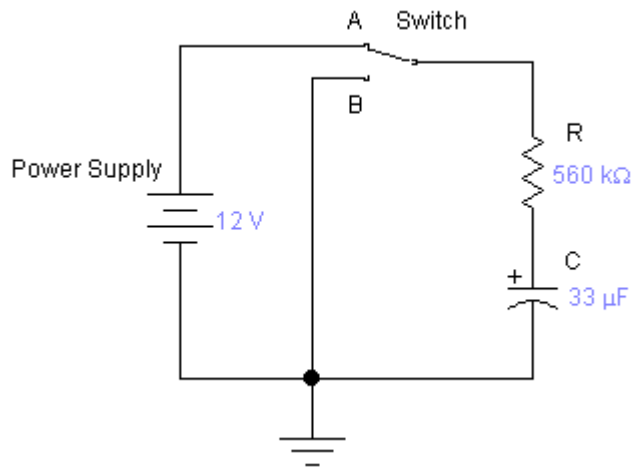

Figure 1.
1. Set up the circuit as shown in figure 1 with the switch in position A. (**NOTE THE POLARITY OF CAPACITOR SHOWN IN THE CIRCUIT. Energizing a circuit with the capacitor polarity wrongly connected in the circuit can result in explosion and personal injury.**)